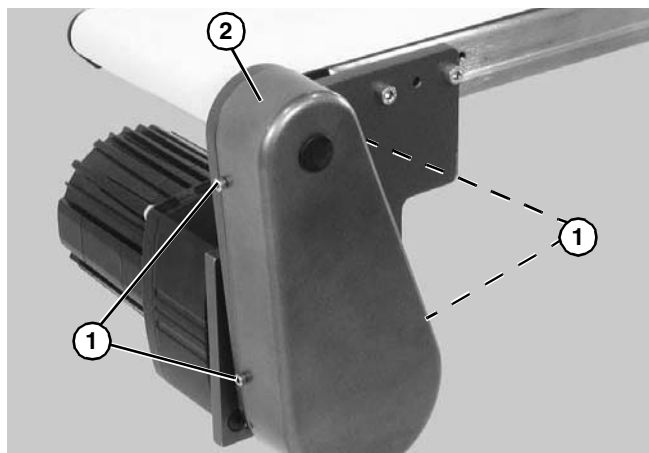

Figure 25
1. Remove four (4) screws (**Figure 25, item 1**) and remove cover (**Figure 25, item 2**).